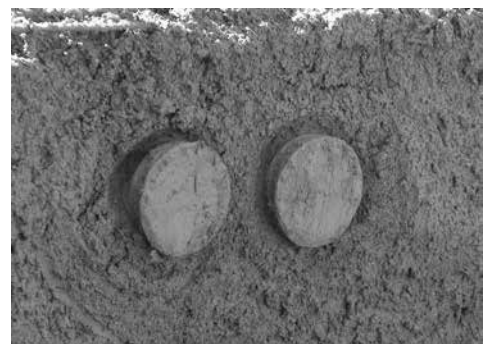

Figure 10
- D. Front edge of each jet housing should finish even with inside pool wall. Scrape out a V-shaped groove around the jet housing, approximately 1-1/2" deep to allow marcite to seal against the jet housing. See Figure 10.